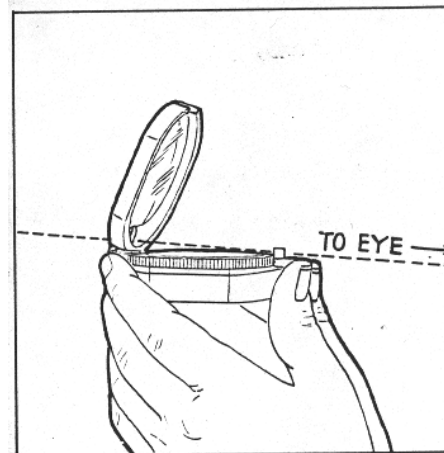

Fig. 8
5. TO USE THE INSTRUMENT AS A PRISMATIC COMPASS (See Figure 8)